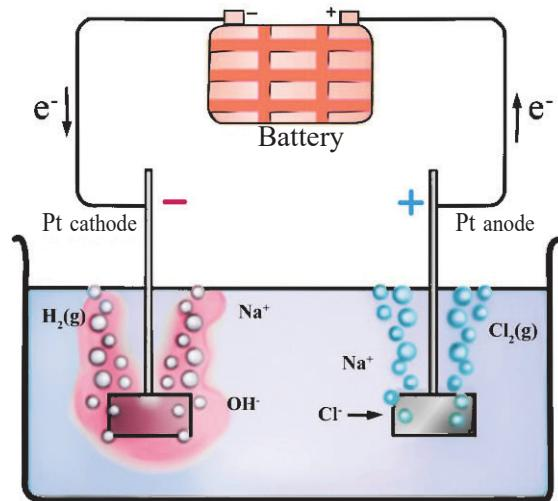

Fig. 5.9
Examine Figure 5.9 representing the electrolysis of aqueous sodium chloride solution.
- $\text{H}_2$  gas is liberated at the cathode. If phenolphthalein indicator is present in the solution, the solution around the cathode (Figure 5.9) turns pink. That is, the solution becomes basic in nature.